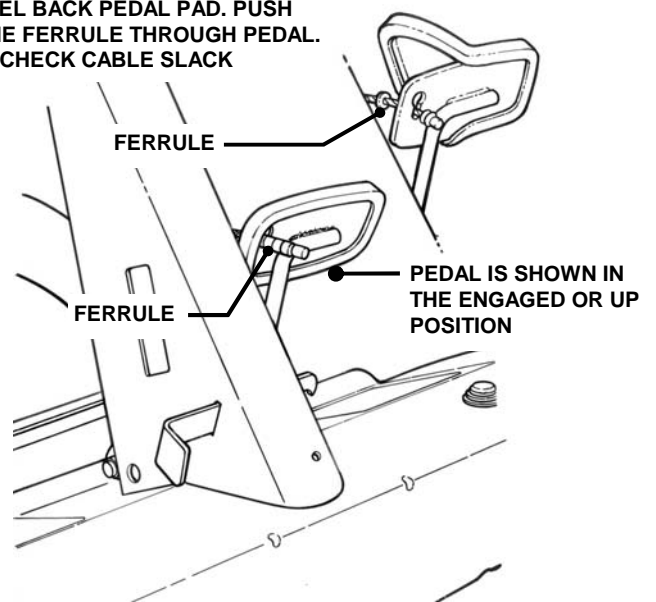

FIGURE 4.4A
10. Disengage parking brake and allow pedal to remain in the engaged wheel drive (Up) position. See Figure 4.4A.
12. Peel back the rubber clutch/brake pedal pad and push one ferrule through hole in pedal to attain slack in cable. See Figure 4.4A. Recheck cable for the approximate 3/16" of slack. Replace pedal pad when adjustment is complete.